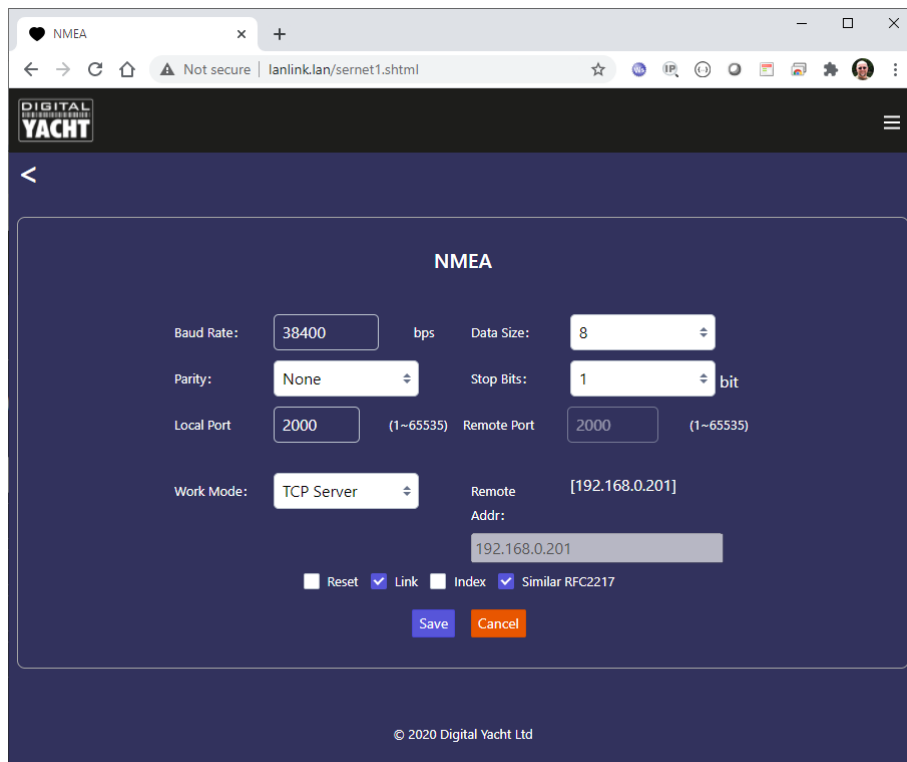

Figure 3
LANLink is pre-configured for NMEA 0183 High Speed (HS) at a 38400 baud rate. To set standard NMEA 0183 4800 baud rate or a custom baud rate, click on the NMEA button and you will be taken to the NMEA webpage in Figure 3.